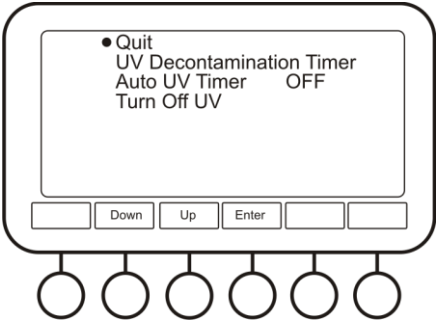

Figure 3. Timer menu
- 5.9.1. **Timer** (fig. 3). In this submenu user can set UV decontamination timer and Auto UV timer.